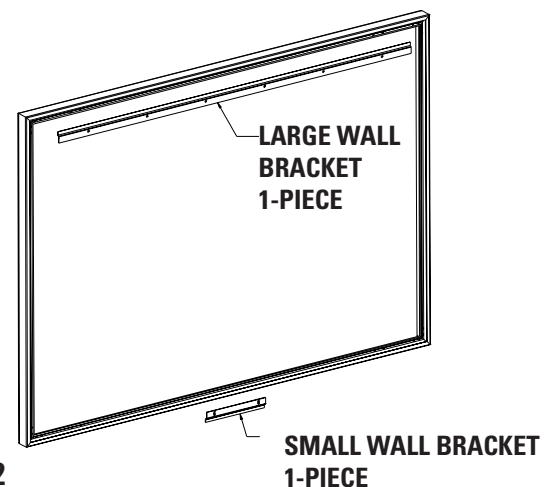

**FIGURE 1**
2. Align the corner brackets with the slots in the frame and slide the frame pieces together (Figure 1). When assembling the last frame piece, slide both ends together at the same time to avoid binding the corner brackets.